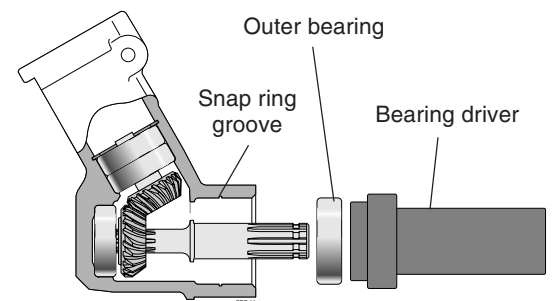

Figure 11.23 Installing the outer bearing.
**STEP 3.** Seat the output shaft bearing using the appropriate bearing driver until it bottoms past the internal snap ring groove (Figure 11.23).